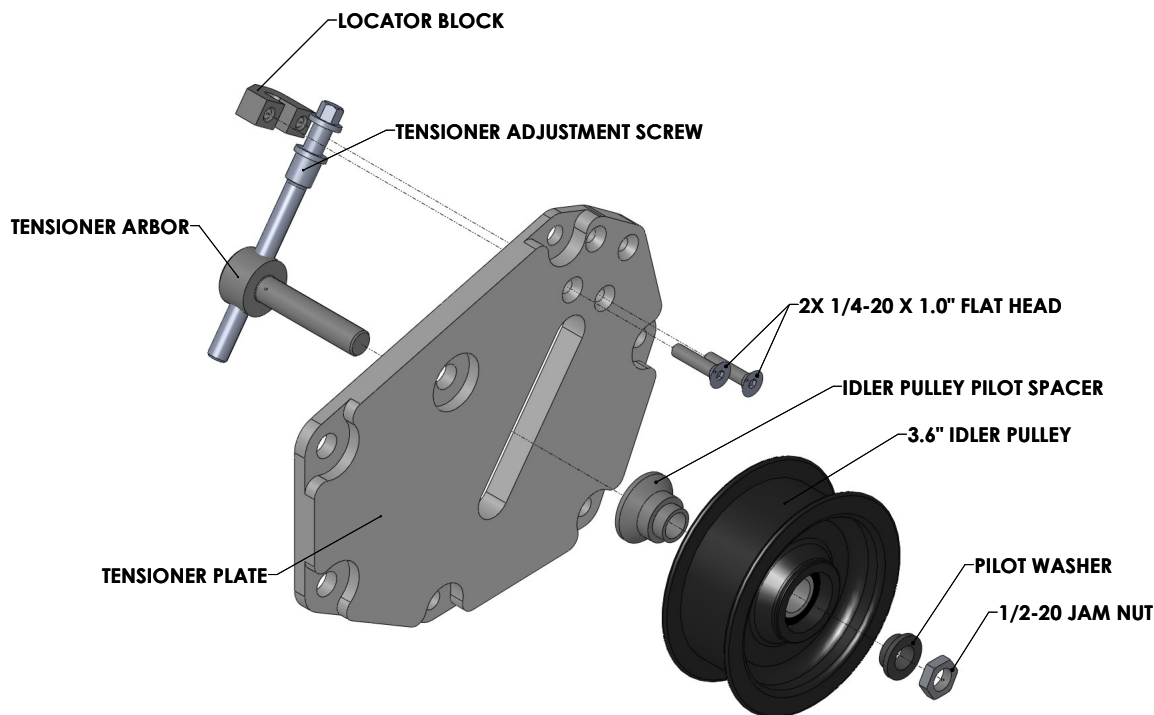

Fig. 5.3-a
- B. Assemble the idler pulley pilot spacer, idler pulley with snap ring facing rear of vehicle, pilot washer, and 1/2-20 jam nut on to tensioner arbor as shown in Fig. 5.3-a. Assemble parts as shown, but leave 1/2" nut just loose enough to allow for adjustment with tensioner adjustment screw. Position idler pulley by adjusting tensioner screw so that access to the hardware mounting holes is not obstructed (in order to allow for installation on to main bracket).